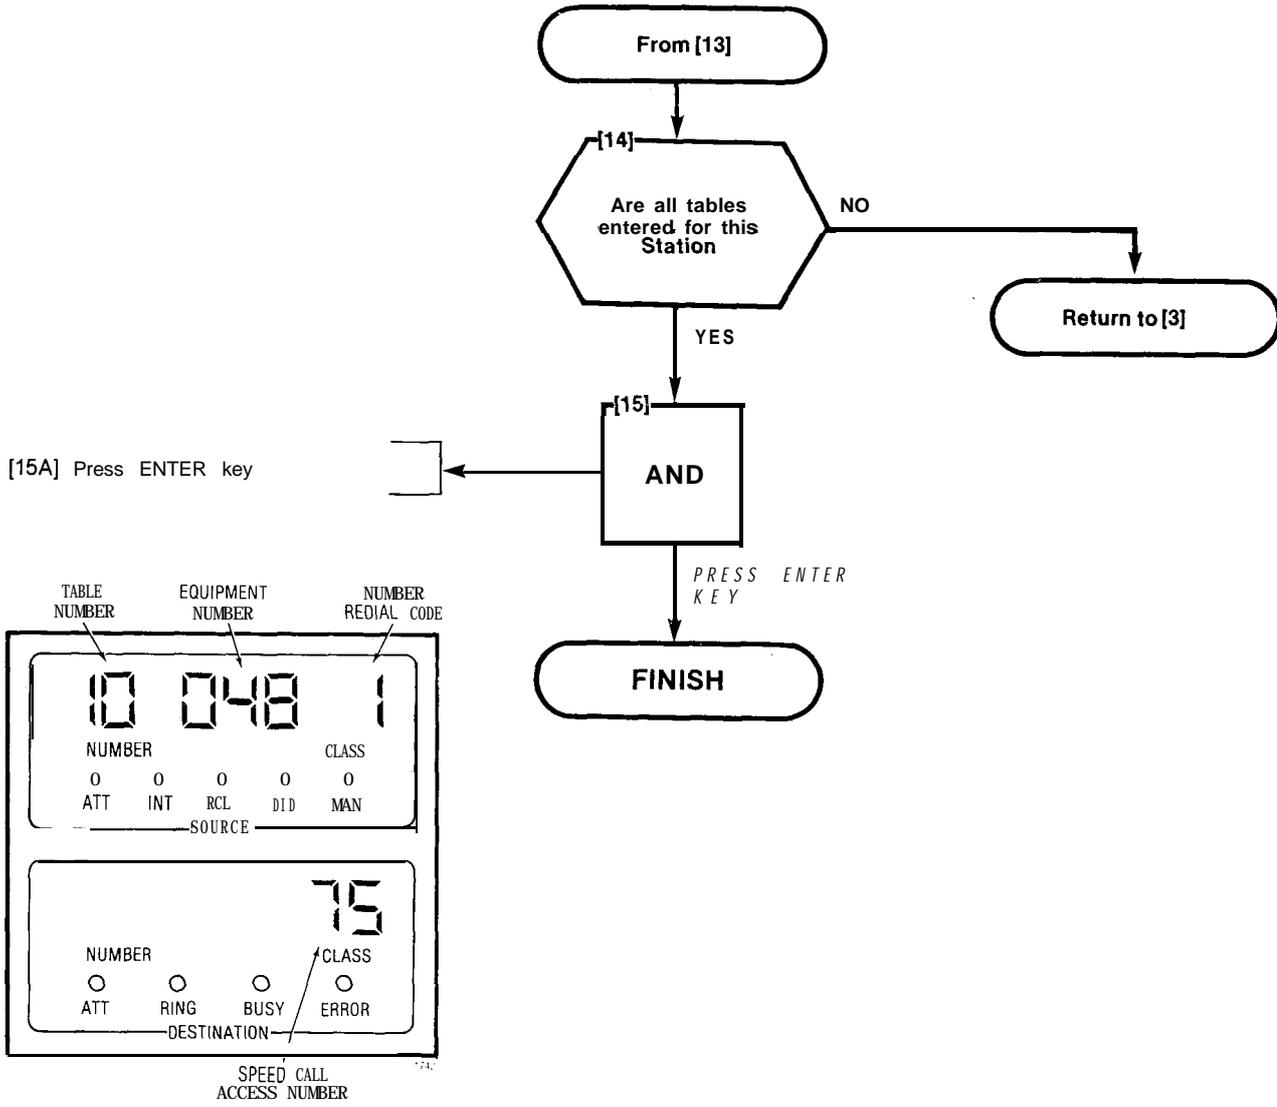

Fig. 242-3 Completed Entries Display
- SOURCE display shows digits entered (Fig. 242-3) when a subsequent key operation occurs
DESTINATION display shows dialed digits (Fig. 242-3) in first two positions which go to the last two positions when a subsequent key operation occurs